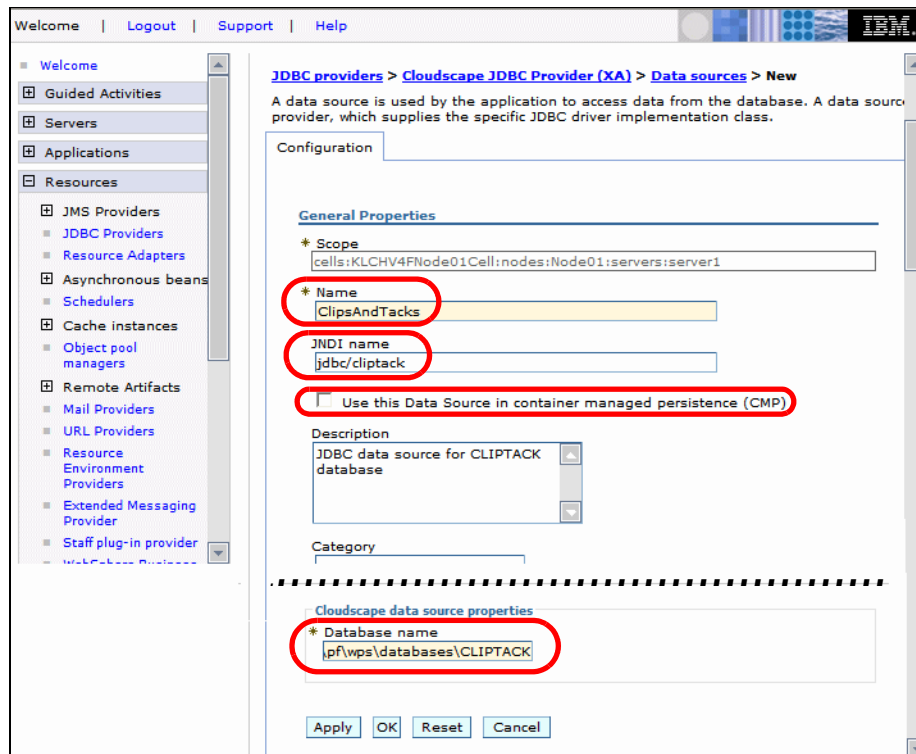

Figure 10-10 Create the data source for the CLIPTACK database
- ▶ Enter these values (Figure 10-10):